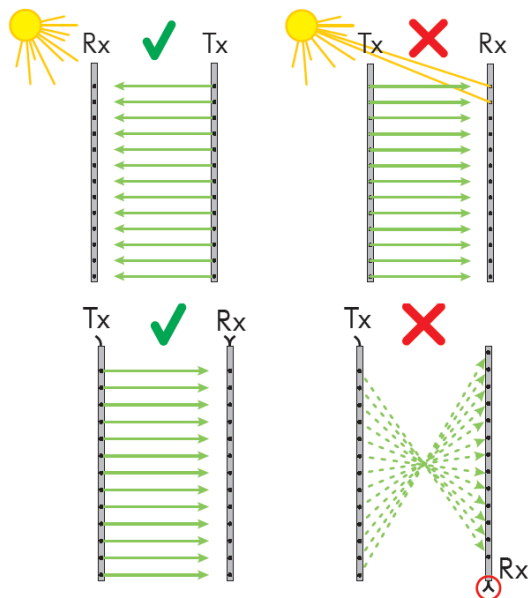

Figure 4: Installation hints
- ▶ Although the easygard100 system is insensitive to direct sunlight, avoid unnecessary exposure when possible, especially the receiver unit (Figure 4).
- ▶ Make sure to orient the connection plugs for both the emitter and receiver at the same end (Figure 4).